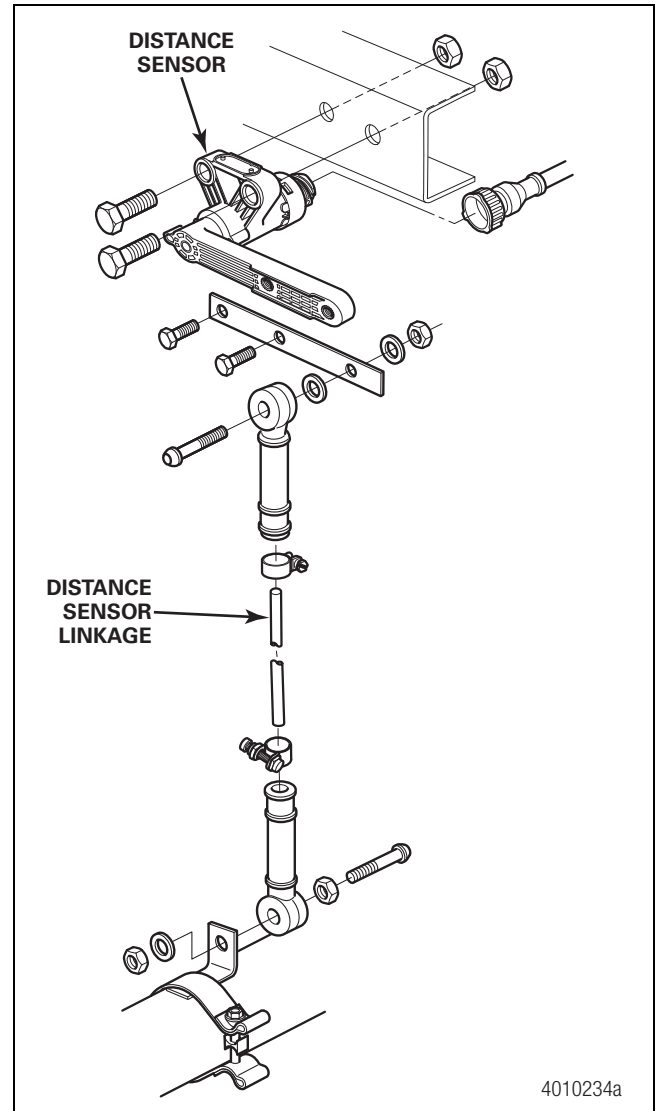

Figure 6.10
1. Disconnect the cable attached to the Distance Sensor. Figure 6.10.
1. Install the Distance Sensor to the cross member or bracket near the center of the trailer with the two bolts previously used to mount the replaced sensor. Figure 6.10.